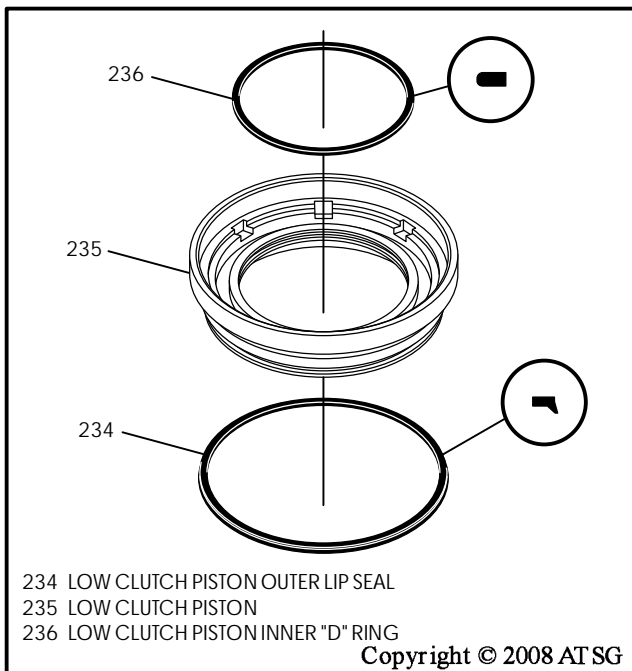

Figure 127
5. Install new inner "D" ring seal on low clutch apply piston, as shown in Figure 127.
6. Install new outer "lip" seal on the low clutch apply piston, as shown in Figure 127, and lube both seals with small amount of Trans-Jel®.